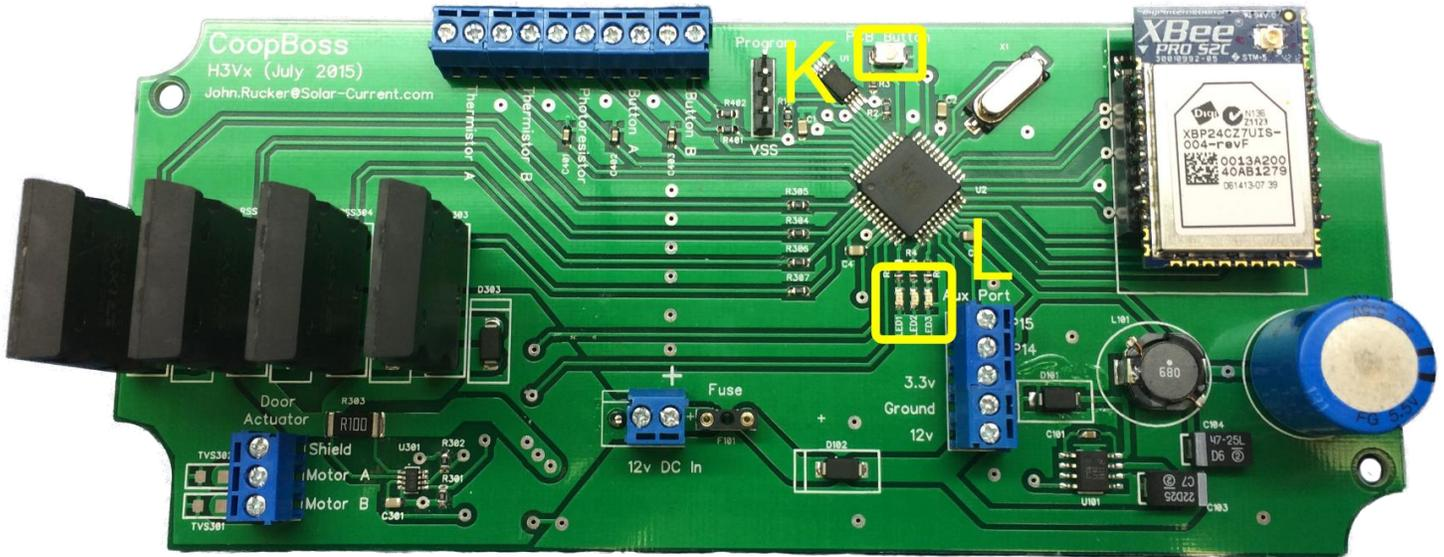

Figure 5
Figure 5 area “K”. The three red LEDs are located just below the main processor as shown in area “L” of Figure 5. These LEDs display numbers in binary format. Refer to LED Key to see the LED patterns that represent numbers from 1 to 7. The LEDs will light up to show program status. The LED status numbers are divided into two sets of seven numbers. The first set of numbers gives a status as the CoopBoss does its initial program load (IPL) (see details in table “LED sequence during IPL”). The second set of numbers are used after IPL is complete and the CoopBoss is in normal operation mode. You can tell if the CoopBoss is in normal operation mode when LED 3 flashes on and off at one second intervals (see details in table “LED light sequence once IPL is complete”).
The normal door close current must be set after installation of the actuator to your coop door. Use the Open/Close push button to open and close the door a few times making sure it closes smoothly and no objects are in the path. Wait until LED3 is flashing, indicating IPL is complete and the CoopBoss is in normal operating mode, then push the small button at the top of the PCB (see area “K” in Figure 5) to set the current of the last door close as the normal door close current. From now on this current setting will be used as a base line for detecting an object in the path of the door. Test this by placing a plastic bottle in the path of your door and push the button to close. The door should bump up against the plastic bottle and open back up. **DANGER: At no time should you place your hand or any body part in the path of the door. If the system malfunctions it could cause bodily harm.** This process should be repeated every 6 to 12 months to insure the door is function correctly.
To leave the ZigBee network and reset back to factory condition, remove the power to the CoopBoss for a few minutes, push the PCB button (see area “K” in Figure 5) and hold while powering the CoopBoss back on. Remove finger when all three LEDs quickly flash on and off. At this point the CoopBoss has
- c. Once the door has successfully open and closed several times you can now set the normal door close current by pushing the button on the PCB (Figure 5 area K). This sets the current from the last door close as the normal operating current for the coop. From this point on when the door is closing its current will be compared to this value and used to determine if an object is in the path.